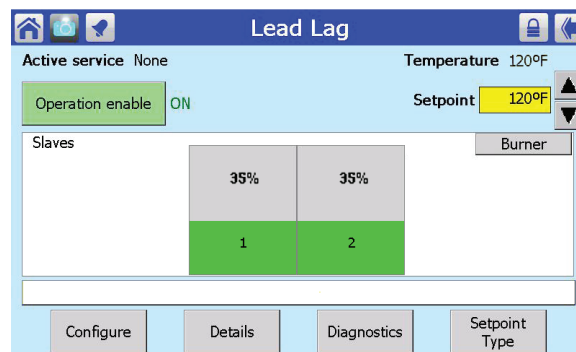

Fig. 117 – Lead/Lag Master Screen
2. Press the Lead Lag Master button. Fig. 117 shows the screen that follows.